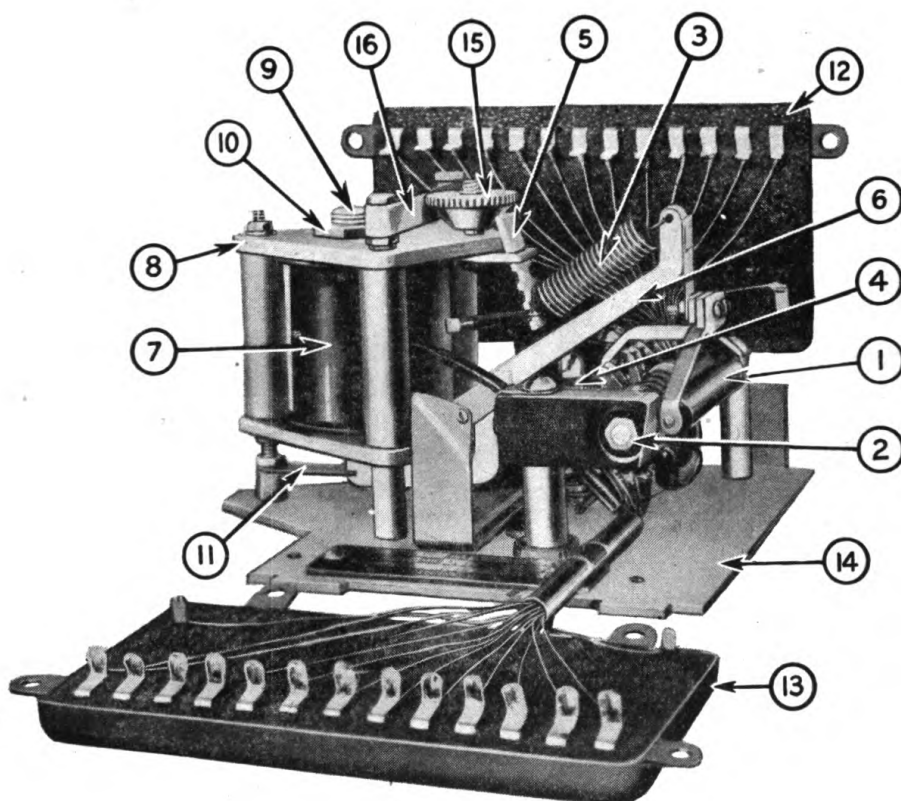

Figure 27.—A-C generator voltage regulator
n. Voltage regulator for a-c generator (figure 27).—